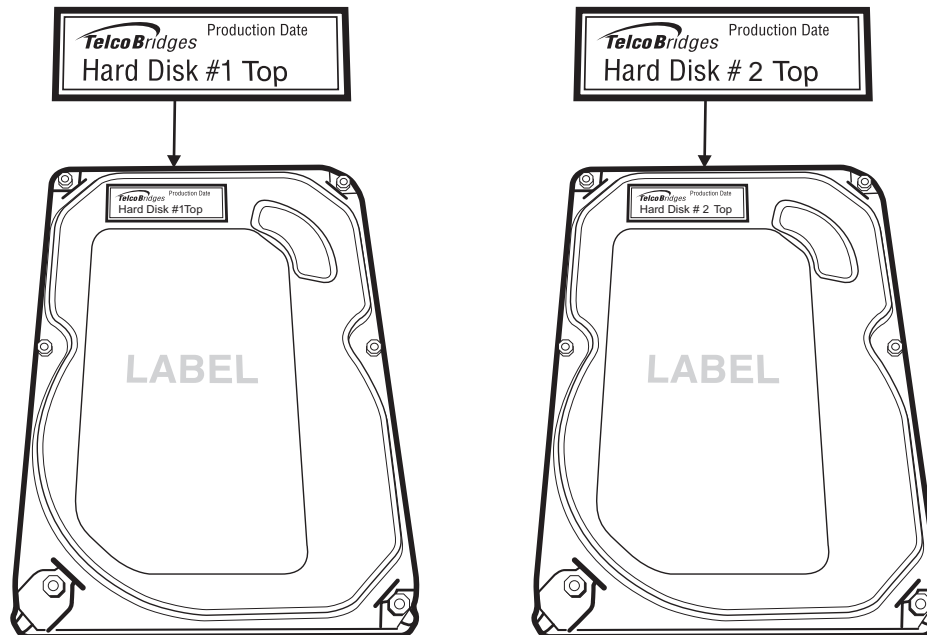
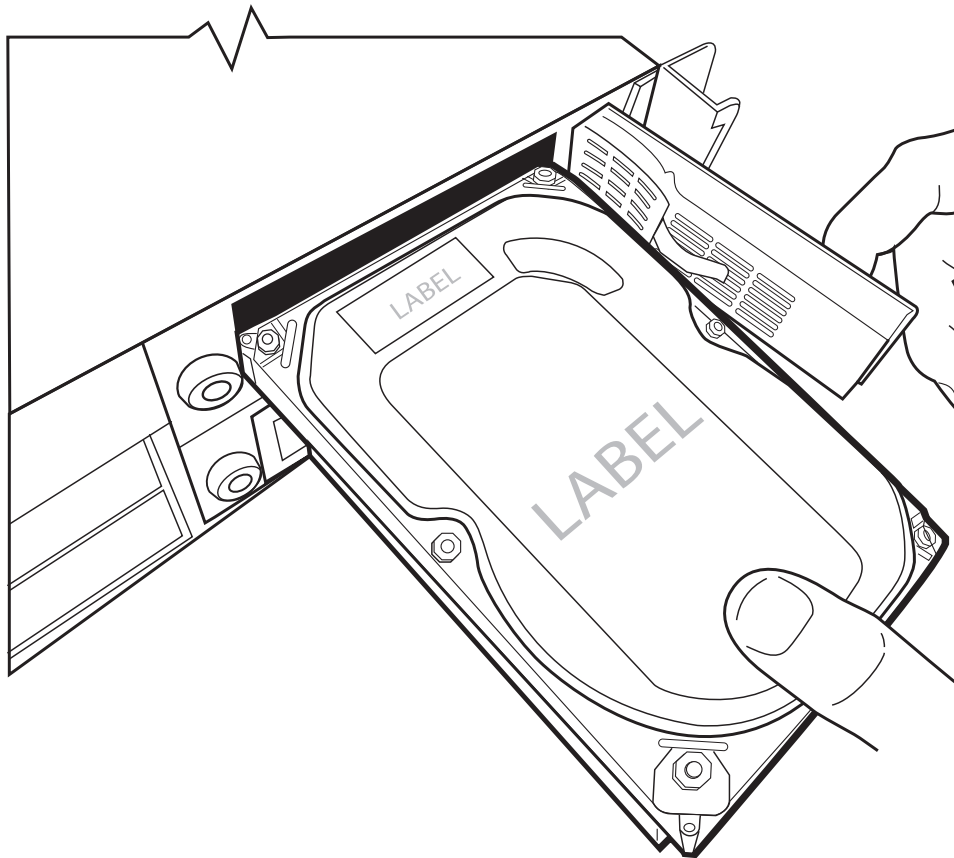

Figure 2.11 Top View of Hard Disks 1 and 2.
Figure 2.16 Inserting the Hard Disk
3. Insert the top disk drive. See figure 2.11 on page 17 and figure 2.16 on page 20.